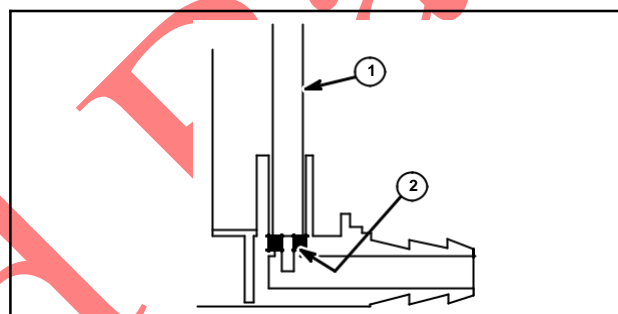

Fig. 108
2. Install inlet needle seat with GROOVE DOWN using Tool #19057, Bushing Driver (1), until seated in groove (2), LMS shown, Fig. 108.